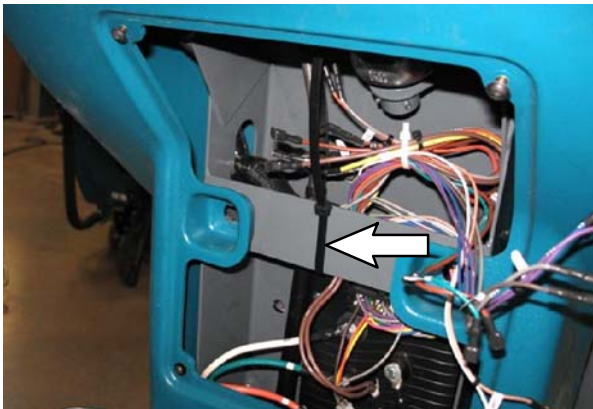

FIG. 53
35. Use a cable tie to secure the wire harness to the steering channel upper cross member to secure the wire harness away from the steering shaft. (Fig. 53)